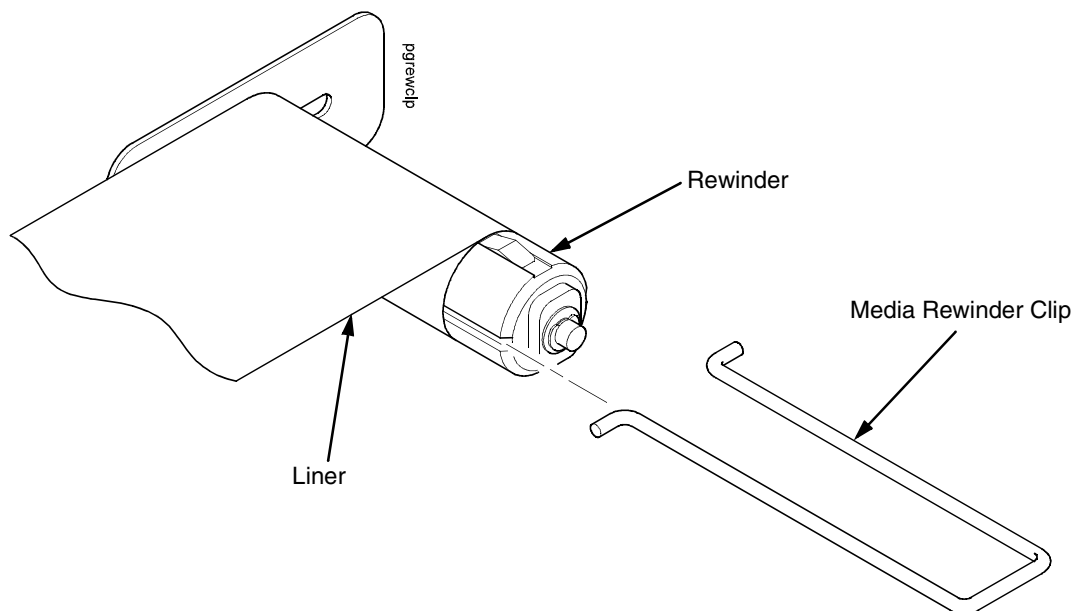

Figure 13. Securing Liner onto the Rewinder
11. Insert the media rewriter clip to secure the media. See Figure 13.